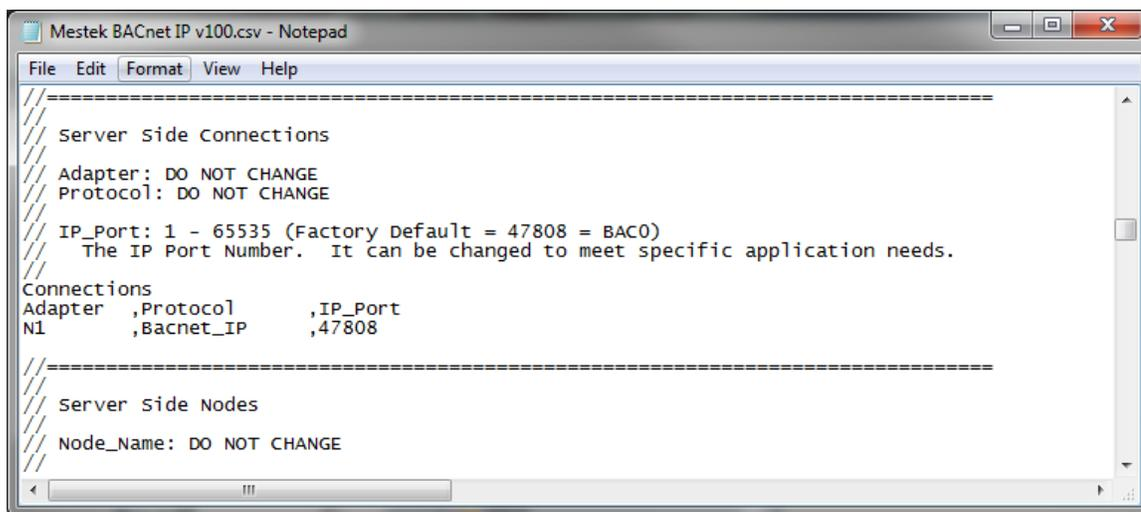

Figure 5 - NotePad - Changing the UDP Port
- 6) To change the UDP Port, find the section titled “Server Side Connections” (see Figure 5) and change the IP_Port field as needed. It can be changed to any value between 1 and 65535. Do no change any other field in this section.